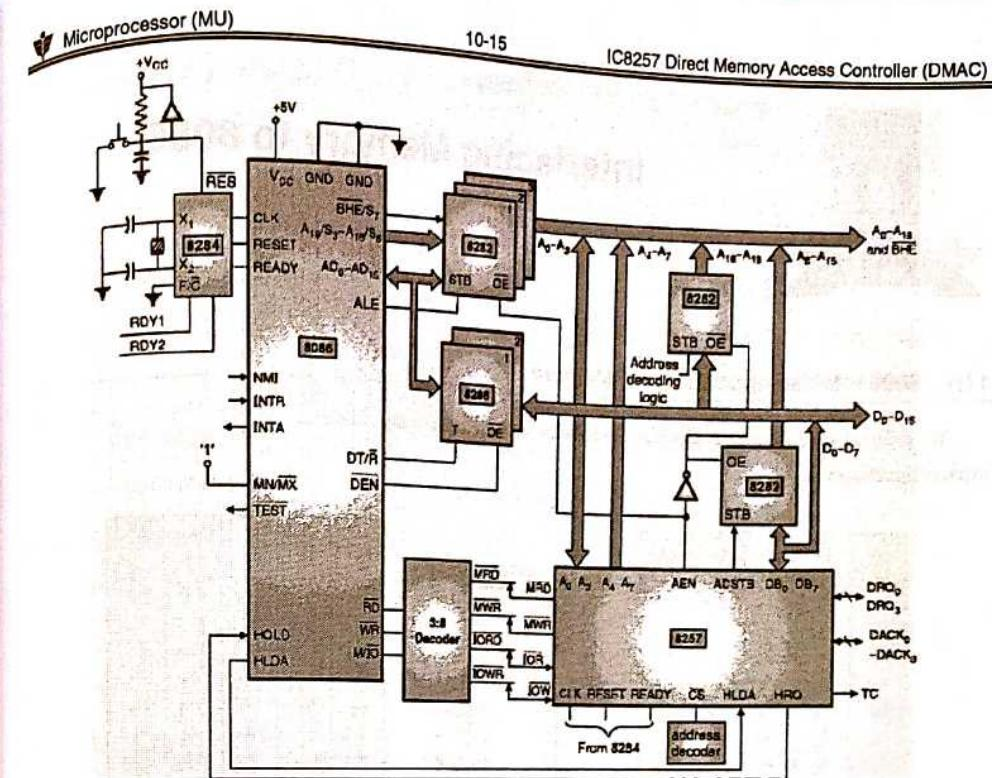

Fig. 10.7.1 : Interfacing of 8086 with 8257
- When borrow/carry is generated from lower address byte during decrement/increment address, the 8257 executes S_1 to latch new higher byte. In most cases, the length of DMA cycle will be 3S. Fig. 10.7.1 Interfacing 8257 with 8086 (minimum mode)
- Fig. 10.7.1 shows the interfacing of 8257 with 8086.
- Address generated by 8257 is only 16-bit; $A_0 - A_3$ is directly connected, $A_4 - A_7$ is also directly connected while $A_8 - A_{15}$ is demultiplexed from DB_0 to DB_7 , as shown in the Fig. 10.7.1.